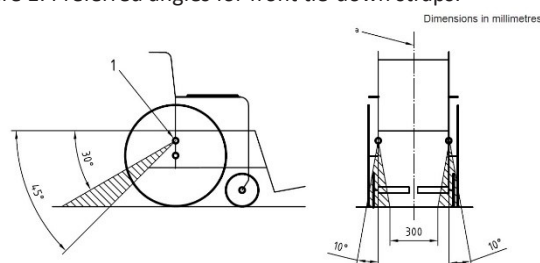

Figure 2: Preferred angles for rear tie-down straps.
4. Upper torso safety belt should fit over the shoulder and across the chest, as illustrated in figure 2.